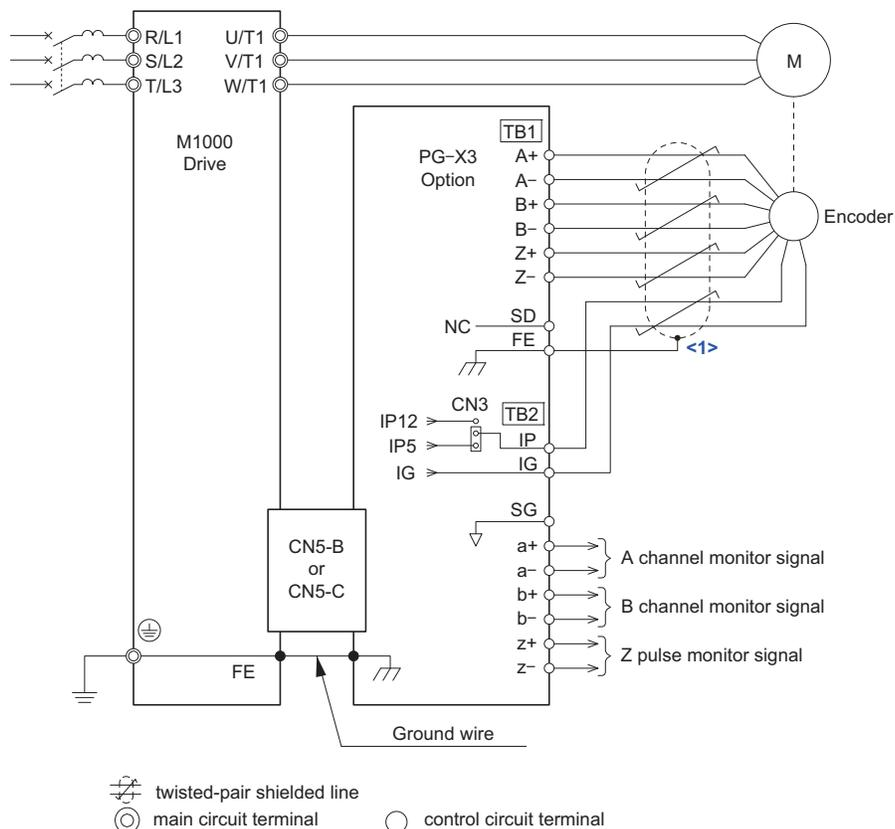

Figure 42 PG-X3 Option and PG Connection Diagram
- Wire the motor PG encoder to the terminal block on the option. Refer to **Figure 42** for wiring instructions. Refer to **Table 85 on page 199** for a detailed description of the option board terminal functions.